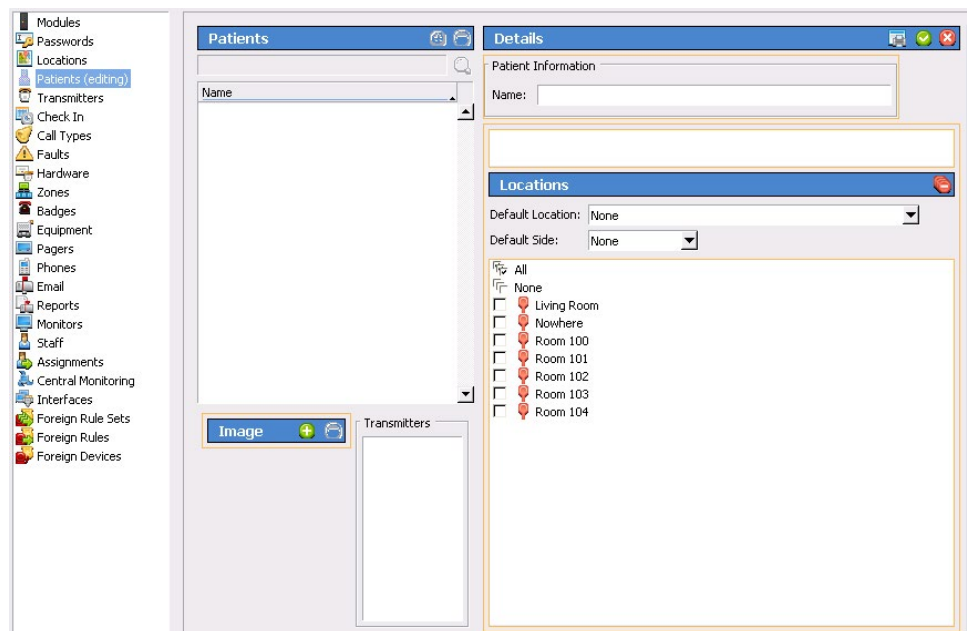

Figure 42: Patients Page
2. Select **Patients** from the page selection pane. The Patients page is shown in *Figure 42* below.